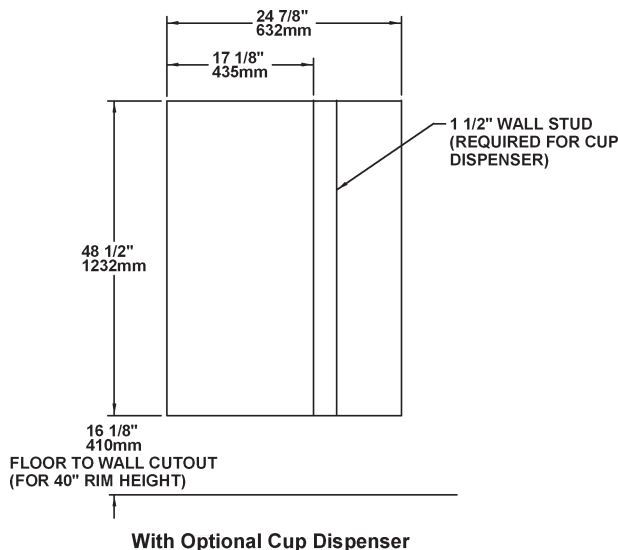
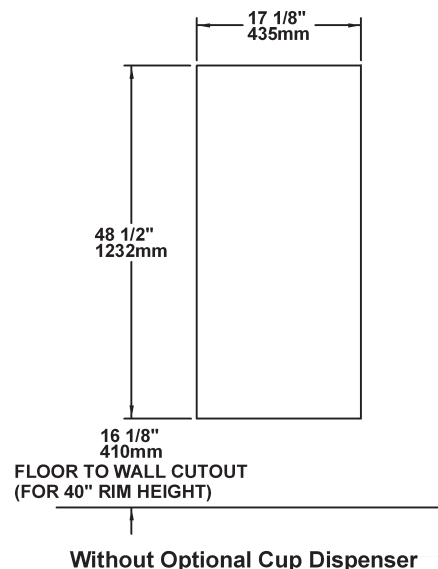

FIG. 3
FIG. 4
1. **Cut** a wall opening 24 7/8 W x 48 1/2 H (with cup dispenser), 17 1/8 W x 48 1/2 H (without cup dispenser). The bottom edge of the opening should be approx. 16 1/8" above the floor (See Fig. 3 with cup dispenser). See Fig. 4 without cup dispenser. Check local codes for height requirement.
2. **After** opening is completed, reinforce opening on all sides so that it may adequately support water cooler which weighs up to 150 lbs. and also provides a means of securing Wall Frame in place. (Install a wall stud indicated on Fig. 3 (with cup dispenser). NOTE: Building construction must allow for adequate airflow on both sides and top of chiller unit. 4" minimum required.